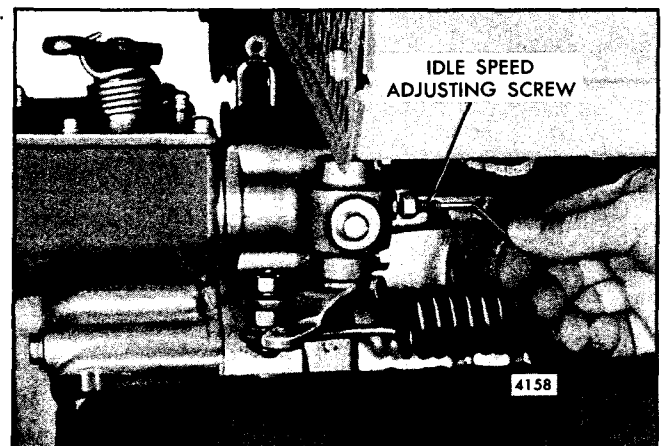

Fig. 7 - Adjusting Idle Speed
3. Loosen the lock nut and turn the idle speed adjusting screw (Fig. 7) until the engine is operating at approximately 15 rpm below the recommended idle speed.